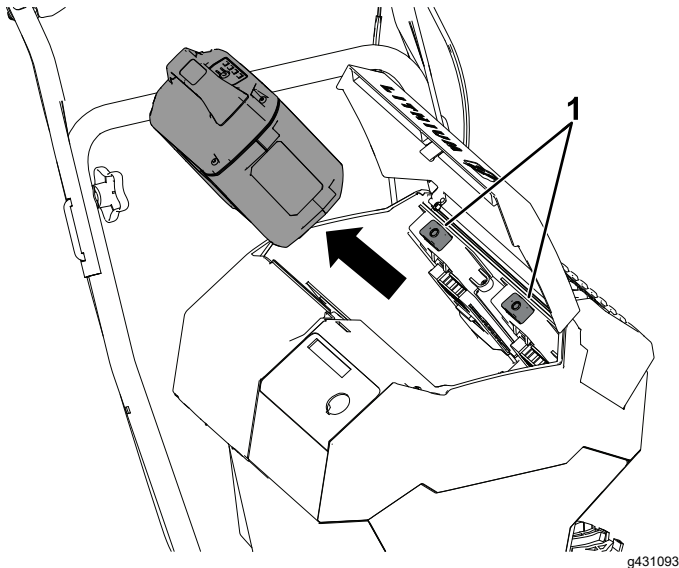

Figure 18
2. Press the battery pack-latch to release the battery pack and remove the battery pack (Figure 18).